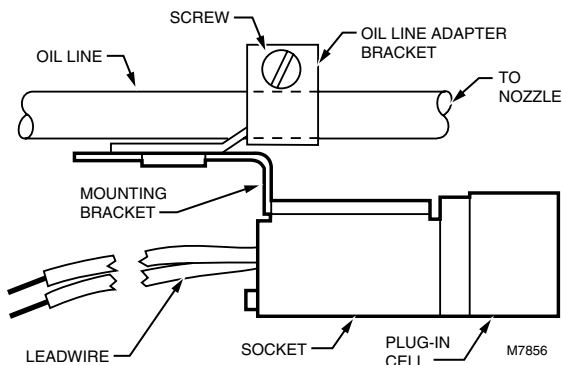

Fig. 5. Use oil line adapter bracket to mount C554A on to oil line.
- ④ Remove the screwdriver and replace the cell.
- ⑤ Slide the mounting bracket into the sleeve on the oil line adapter bracket. Push firmly to lock the cell and the bracket assembly in position.
- ⑥ Mount the oil line adapter bracket on the oil line using the screw and nut provided (Fig. 5).